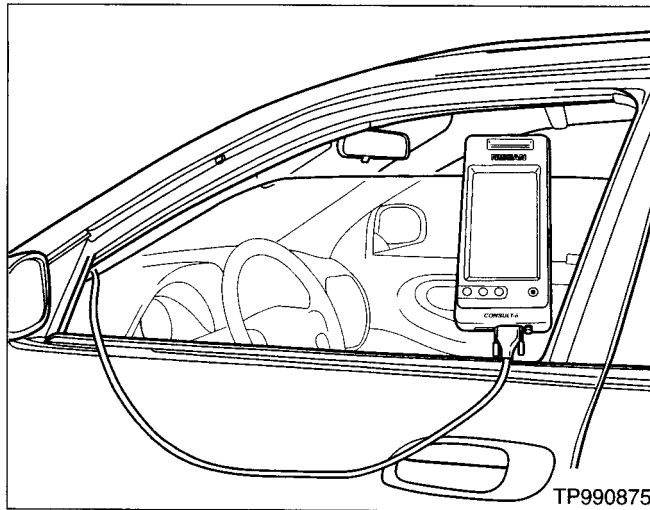

Figure 7
35. Roll down the driver's window part way, exit the vehicle, close the door and hang the CONSULT-II unit on the outside of the window (see Figure 7).